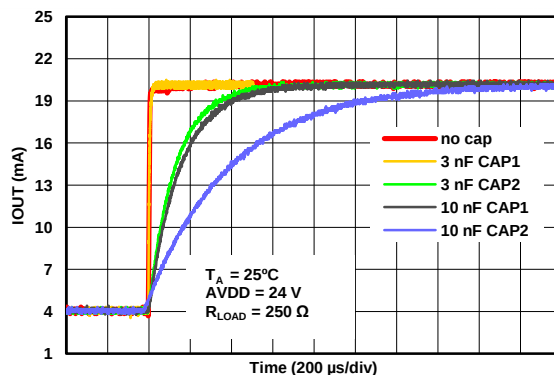
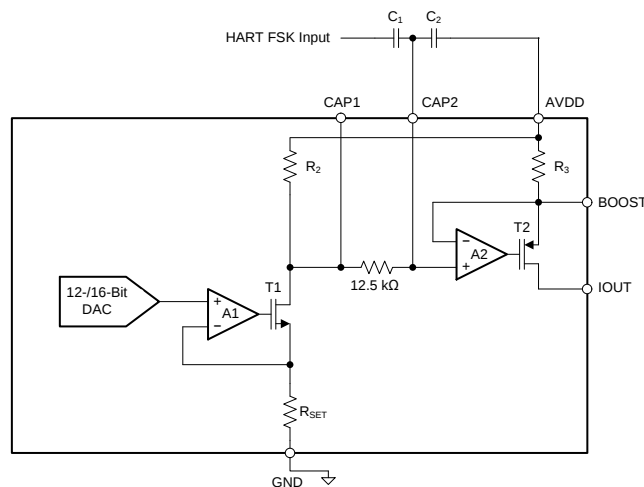

Figure 89. IOUT vs Time for Different Cap Values on CAP1 and CAP2
Figure 94. Implementing HART on IOUT Using the CAP2 Pin
The QFN package provides access to internal nodes of the circuit as shown in Figure 94. Capacitors can be placed on these pins and AVDD to form a filter on the output current, reducing bandwidth and the slew rate of the output. However, to achieve large reductions in slew rate, the programmable slew rate can be used to avoid having to use large capacitors. Even in that case, the capacitors on CAP1 and CAP2 can be used to smooth out the stairsteps caused by the digital code changes as shown in Figure 89. However, note that power supply ripple will also couple into the part through these capacitors.
The first method of implementing HART is to couple the signal through the CAP2 pin, as conceptualized in Figure 94. Note that this pin is only available in the QFN-40 package.
In Figure 94, R_3 is nominally 40 Ω , and R_2 is dependent on the current output range (set by the RANGE bits) as described below:
1. As is seen in Figure 94, CAP2 is directly connected to the input of the final IOUT amplifier. Any noise or unwanted ac signal routed near the CAP1 and/or CAP2 pins could capacitively couple onto internal nodes and affect IOUT. Therefore, with the QFN package, it is important to avoid routing any digital or HART signal trace over the CAP1 and CAP2 traces.